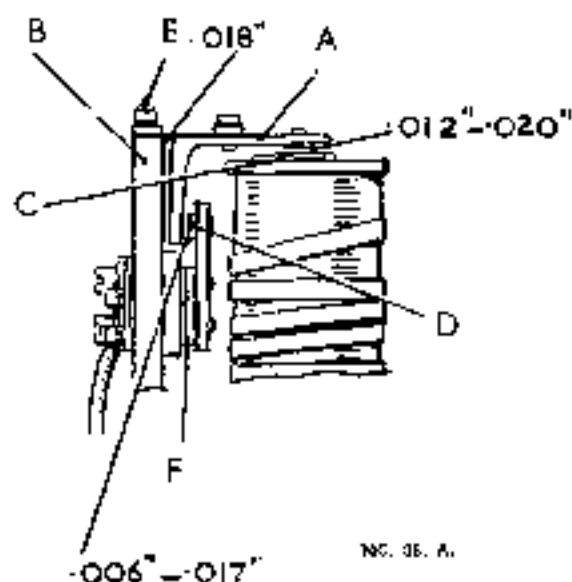

Fig. 13. Regulator mechanical setting.
- Slacken the two armature fixing screws (E) Fig. 13. Insert .018-in. (.4572 mm.) feeler gauge between back of the armature "A" and the regulator frame.
- Check the gap between the underside of the arm and the top of the bobbin core, this should be .012-.020-in. (.3048-.508 mm.). If the gap is outside these limits, correct them by adding or removing shims (F) at the rear of the fixed contact.